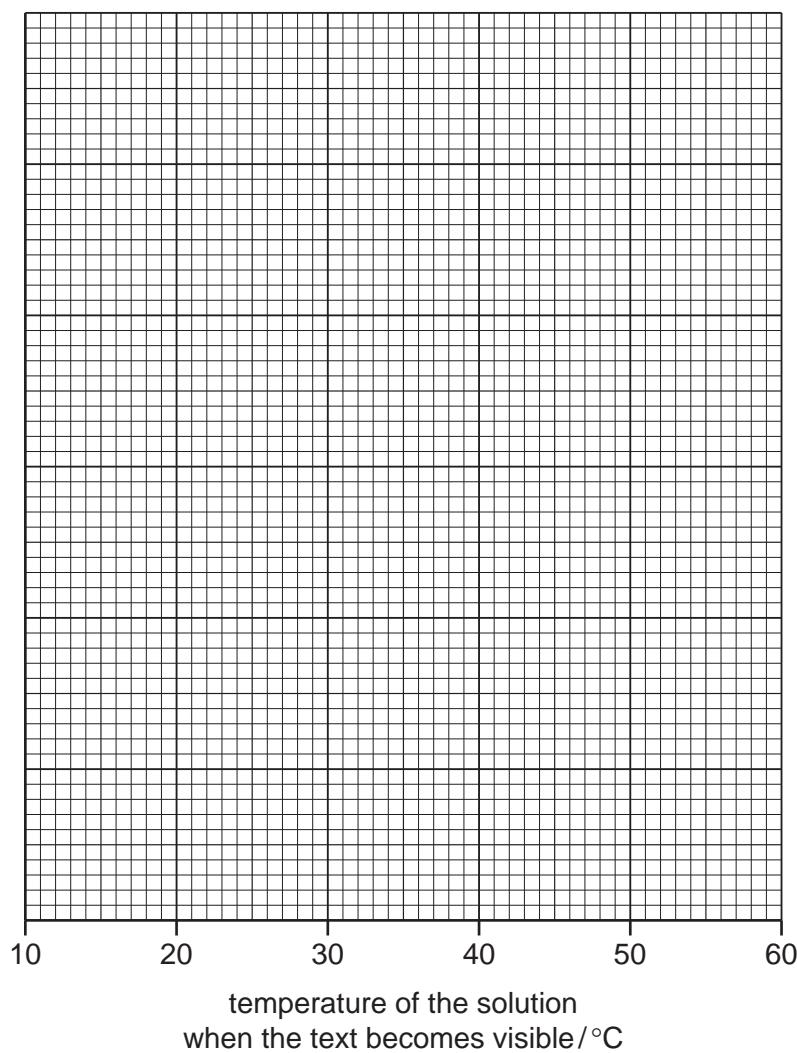

Fig. 1.2
- (c) Write a suitable scale on the y -axis and plot your results from Experiments 1 to 5 on Fig. 1.2. Draw a smooth curve of best fit.
Show your working on Fig. 1.2.